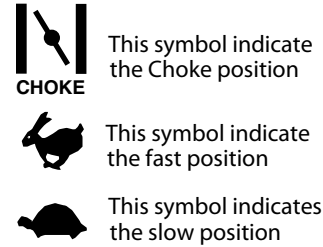

Figure 4-5
The throttle control is located on the LH console to the left of the operator's seat. When set in a given position, a uniform engine speed will be maintained. Refer to Figure 4-5.
- When starting the engine, push the control handle fully forward into the "CHOKE" position. Refer to Figure 4-5. After starting and warming the engine, move the control handle rearward until you feel it move past the choke detent..